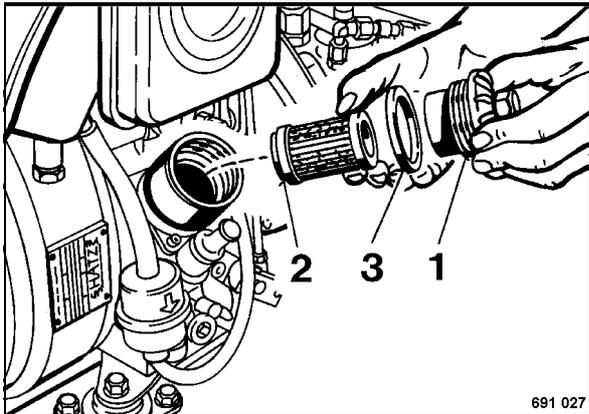

Fig. 62
- Unscrew the filler neck cover 1 (Fig. 62).
- Check the O-ring (3), use a new one if necessary.